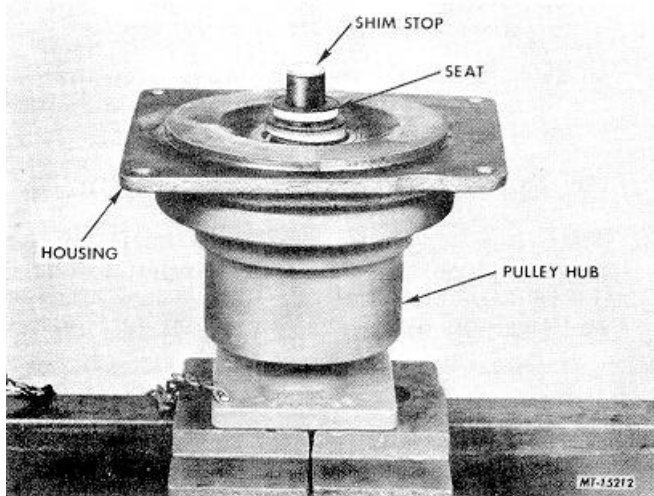

Fig. 135
4. Support bearing shaft (hub end) on press bed and then lubricate seat with engine oil and position seat onto end of bearing shaft, Fig. 135. Select the .060" shim stop from SE2086 shim set and place on impeller end of shaft, Fig. 135. The purpose of the shim stop is to limit the travel of the pump shaft in the impeller so that interference will exist between the impeller and body. The amount of this interference will be measured in item 7. The final specified running clearance is obtained in operation 10.